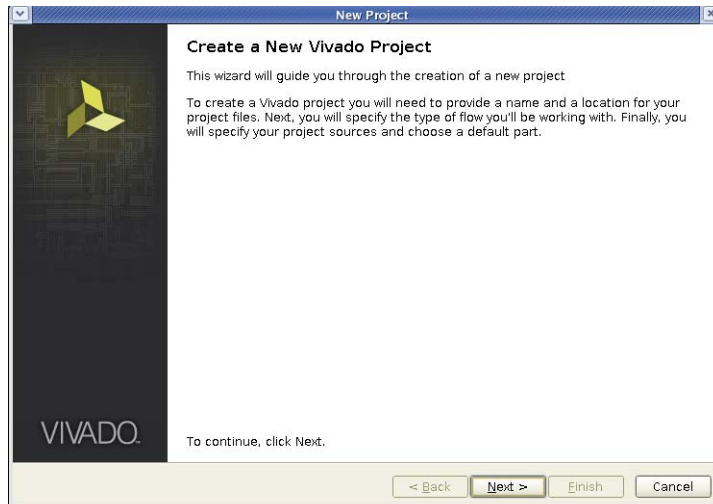

Figure 6-5: New Project Dialog Box
3. Enter a project name and location, then click **OK**. This example uses `project_name.cpg` and `project_dir`. The Project Options dialog box appears (Figure 6-5).